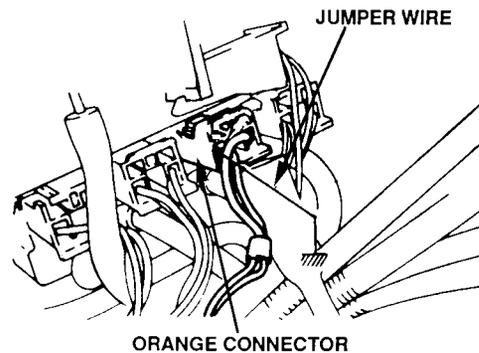

Figure MA014-2
3. Use a fused jumper to short across the test terminals as shown in Figure MA014-2 (2-pin yellow connector, at left shock tower area).
4. Locate the orange pressure regulator solenoid connector. Energize the fuel pressure regulator solenoid using a fused jumper wire to ground the control terminal, which is opposite the Blk-Wht power terminal (Figure MA014-2). The gauge should read regulated pressure of about 35 psi.